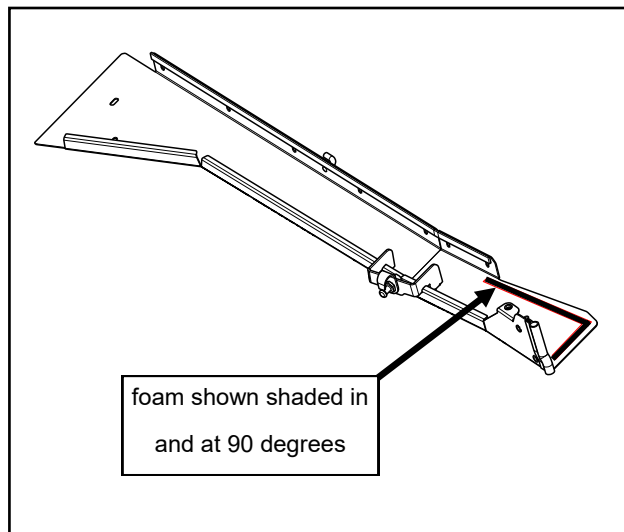

Fig. 3.1 Expanding Foam, Passenger Side
- 3.1** Per figure 3.1, install Expanding Foam to the passenger B-Pillar as shown. Over the next 24 hours, this foam will expand to fill the gap between the B-Pillar and the vehicle's side panels.